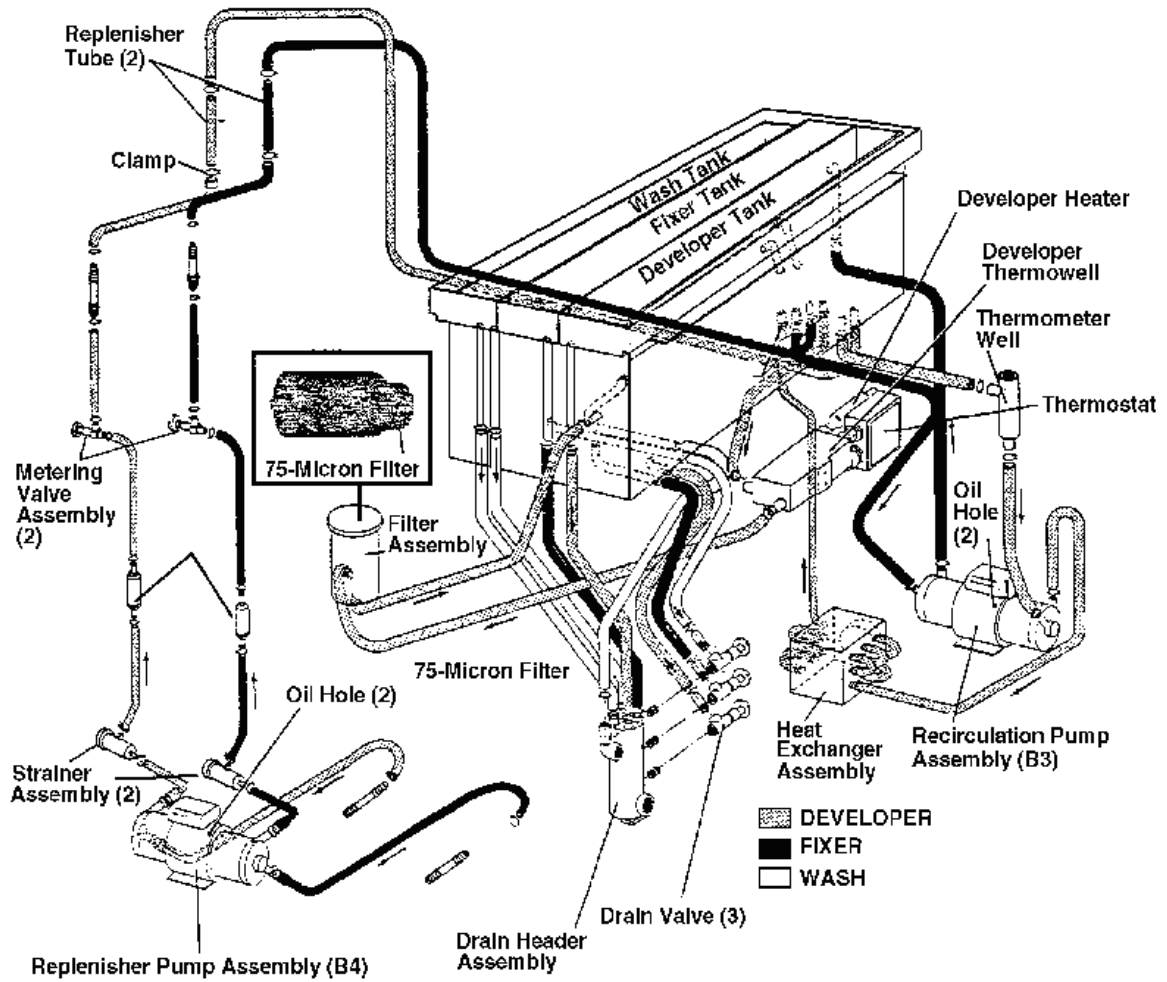
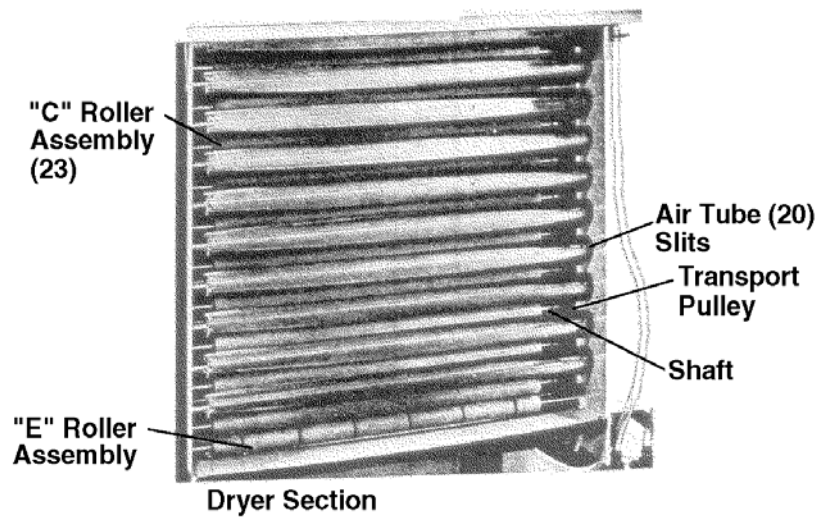

Figure 2-4. Piping assembly.
Figure 2-6. Air tube slits.
(7) Check the solution recirculation. A slight movement on the solution surface indicates that the recirculation pumps are operating.
(8) Check the calibration of the mixing valve thermometer. With a thermometer of known accuracy, check the solution temperature in the developer tank. It should be 95°F (35°C). If necessary, adjust the developer thermostat. Refer to figures 2-4 and 2-5.
(9) Clean the replenisher strainers. Refer to figure 2-4.
(10) Check the transport rollers to be sure that they are rotating.
(11) Check the dryer air-tube slits for cleanliness. Refer to figure 2-6.
(1) At least once a month or after 5,000 films, change the developer recirculation system filter cartridge in accordance with the operating and service manual for the X-OMAT. Refer to figure 2-4.
(1) Clean off the existing grease on the worm drive gears of the main drive and the dryer drive. Apply a small amount of NLG1--No. 2 Lithium Ball and Roller Bearing Grease to the surface of the gear teeth on the main drive and the dryer drive.
(2) Add several drops of light oil, such as SAE-20 motor oil, to the oil holes in the recirculation and replenishment pump motors. Refer to figure 2-4.